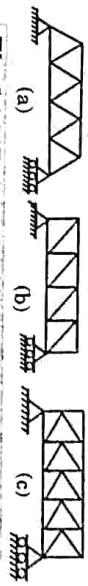

**Fig. 2.1.1.** A truss with parallel chords.
1. According to the Shape of the Upper and Lower Chords : The trusses can be classified into trusses with parallel chords as shown in Fig. 2.1.1, polygonal and triangular trusses or trusses with inclined chords as shown in Fig. 2.1.2.